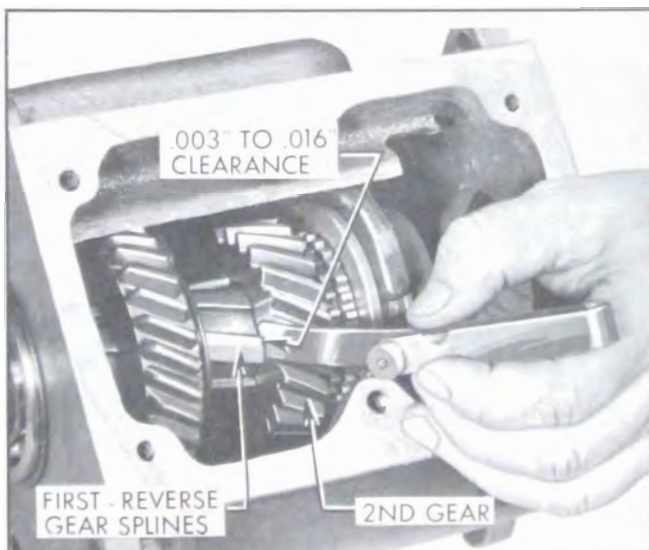

Figure 4-30—Checking End Clearance of Second Speed Gear
8. With synchronizer hub and second gear pressed forward against snap ring, there should be from .003'' to .016'' end clearance between second speed gear and front facing of first-reverse gear splines. This is a selective fit of main shaft, second speed gear, and synchronizer hub. Replace worn parts if clearance is found to be excessive. See Figure 4-30.